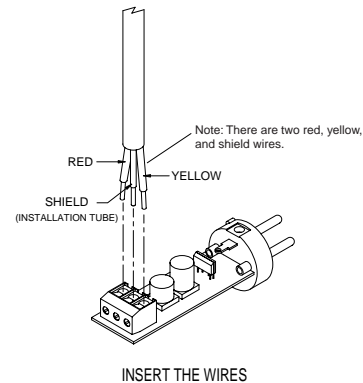

Figure 3.
7. Reconnect cable to terminal strip following the illustrations in Figures 3 and 4.